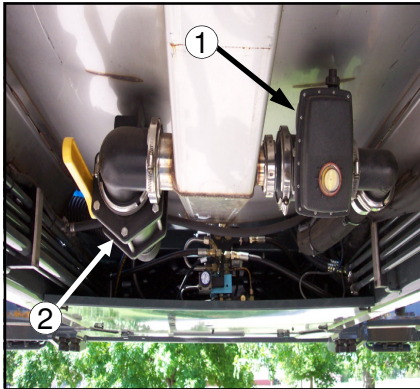
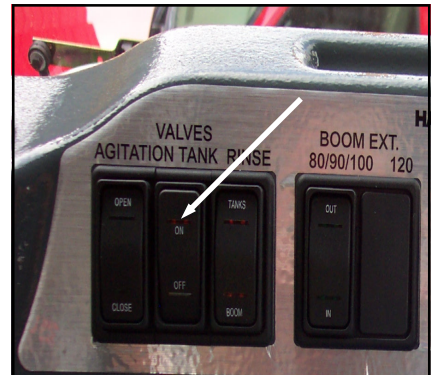

FIG 4.31-2
FIG 4.31-3
SOLUTION TANK VALVE– The solution tank valve (fig. 4.31-2, item 1) controls the amount of solution coming out of the tank. The valve is controlled from inside the cab with the TANK VALVE switch (fig. 4.31-3) located on the right hand console.
TANK SUMP VALVE– The tank sump valve (fig. 4.31-2, item 2) is a ball type valve that has to be turned on and off manually. This valve is to allow the fluid into the tank from the fill option.